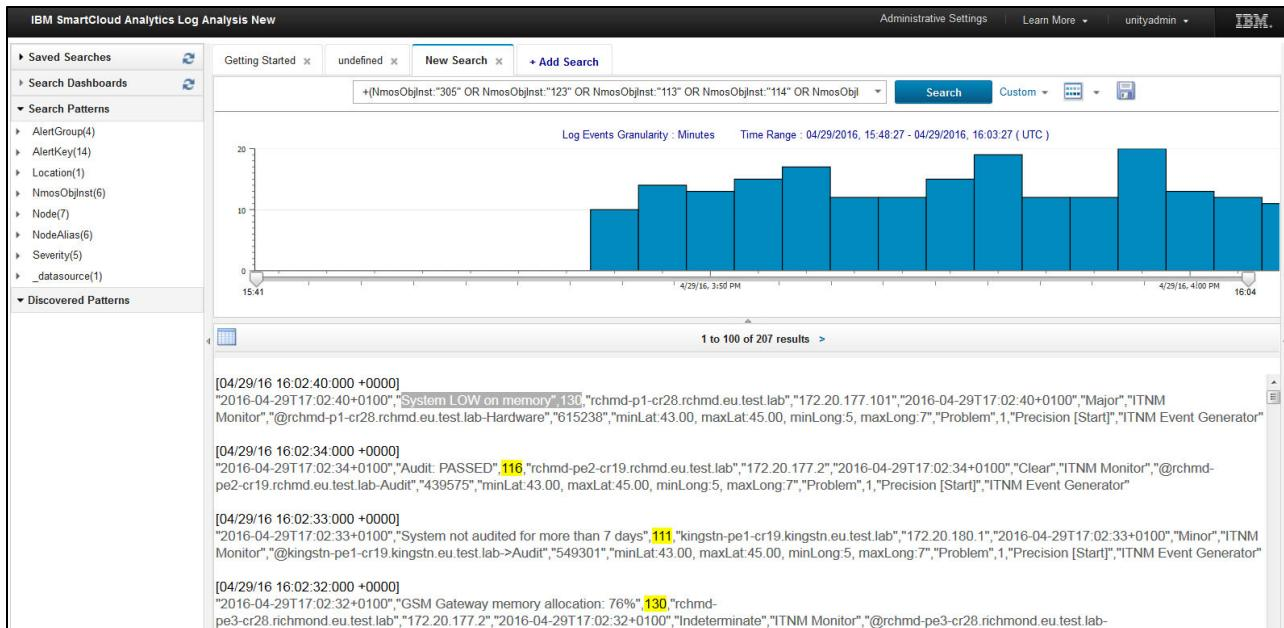

Figure 5-6 Dashboard view
8. While clicking one of the routes, Tom can see a timeline and issues description. Because he investigates the memory issue now, the issue that interests him is low memory error between the devices, as shown in Figure 5-6.